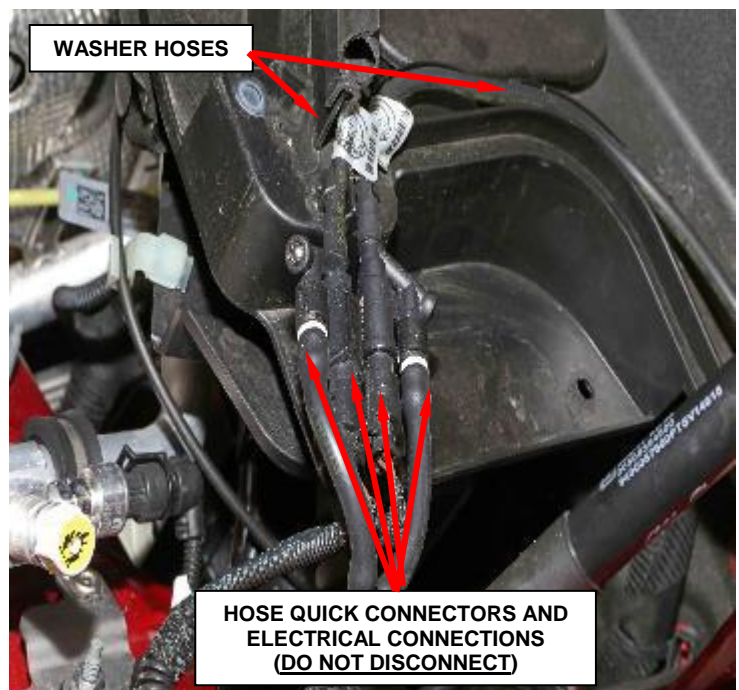

Figure 6 – Wiper Hoses and Electrical Connectors
d. Separate the washer hoses from the housing of the wiper arms (Figure 6).